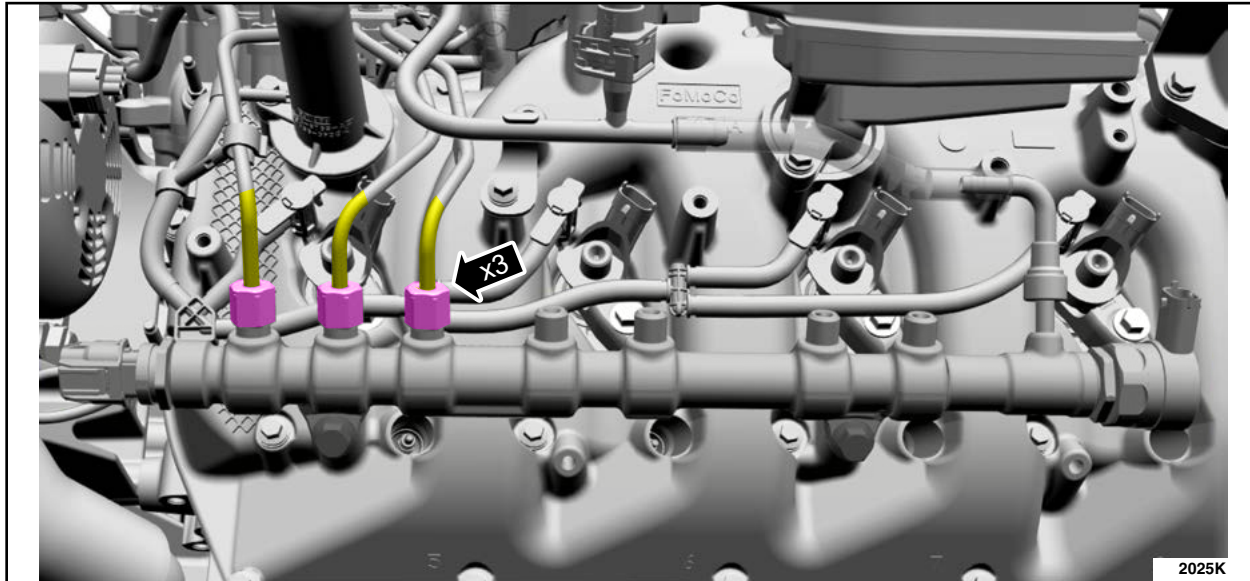

FIGURE 12
- Connect, but do not tighten at this time, the three (3) LH fuel rail supply tube fittings to the LH fuel rail. See Figure 12.